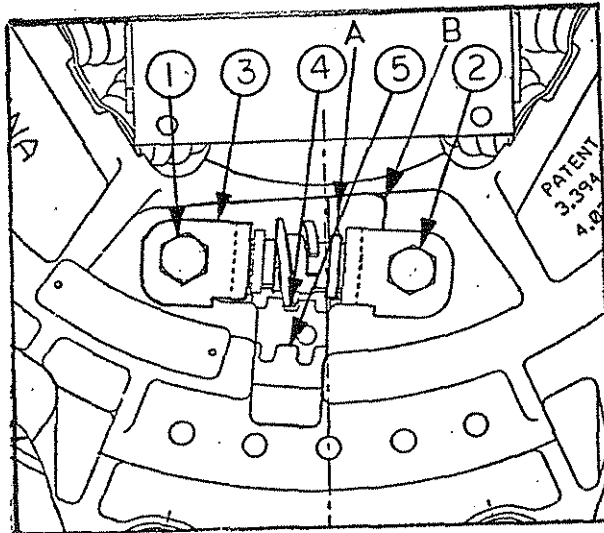

FIGURE 5
6.2 SPICER SELF ADJUSTING CLUTCH (REFER TO FIGURE 5)